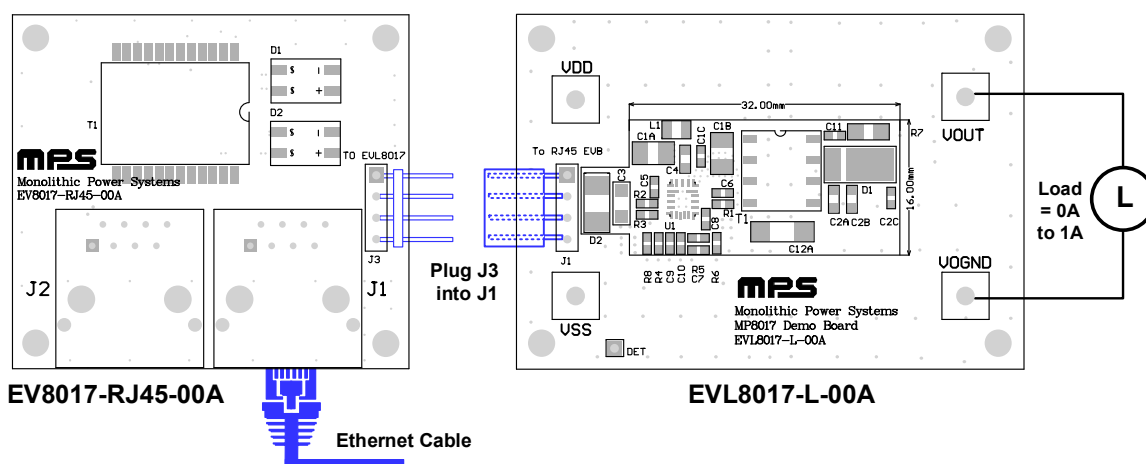

Figure 1: EV8017-RJ45-00A Set-Up Method
The EV8017-RJ45-00A is the RJ45 connection board for the EVL8017. The EV8017-RJ45-00A delivers power over Ethernet (PoE) from the Ethernet cable to the EVL8017 evaluation boards to evaluate the MP8017's performance. To set up the EV8017-RJ45-00A, refer to Figure 1 and follow the steps below:
- Figure 1 shows the connection method using the EVL8017-L-00A.